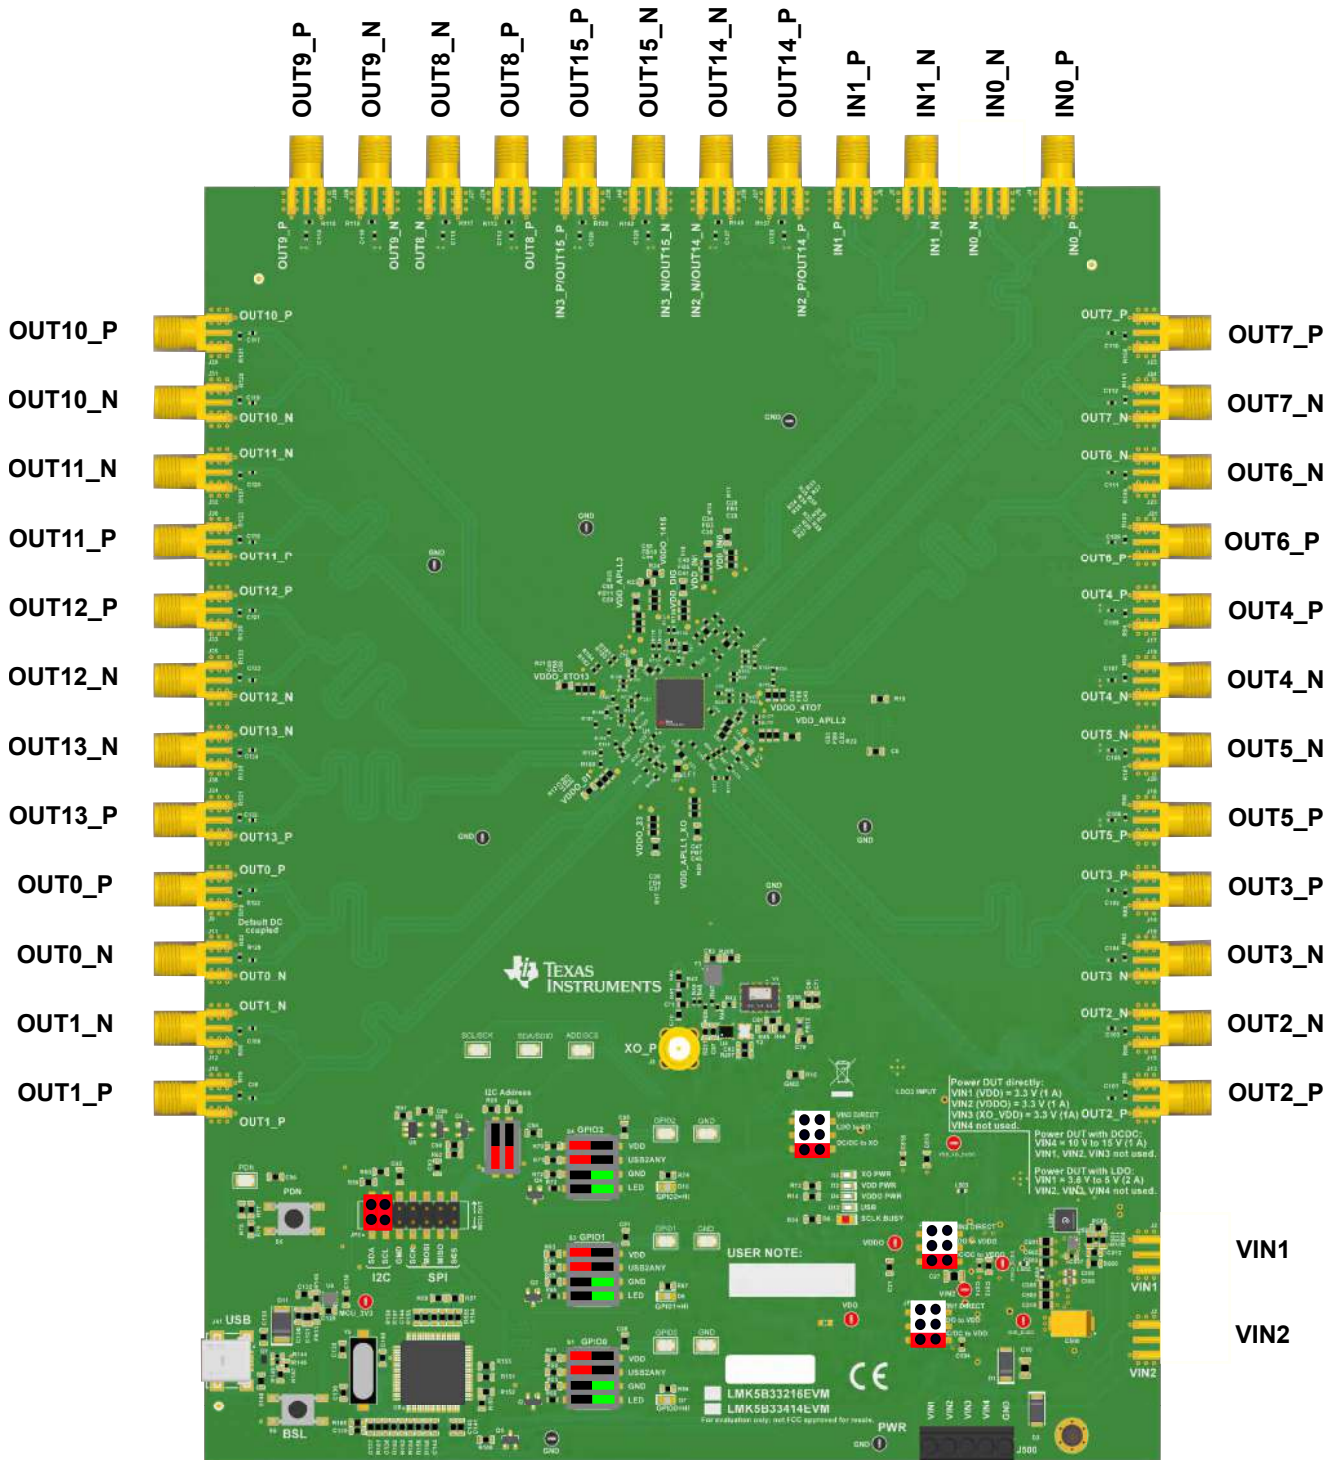

Figure 1-1. LMK5B33216EVM Default Setting of Jumpers and DIP Switches
Figure 1-1 shows the jumper position with red markings. Figure 1-1 shows the DIP switch positions in either green boxes (for ON) or red boxes (for OFF) in the appropriate location.
1. Verify the EVM default jumper and DIP switch settings shown in Figure 1-1.